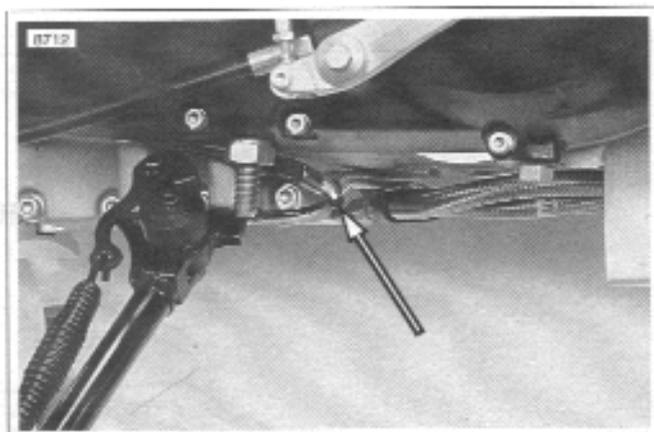

Figure 3-21. Sidestand Switch with Cable Strap
- See Figure 3-21. Cut cable strap securing harness.